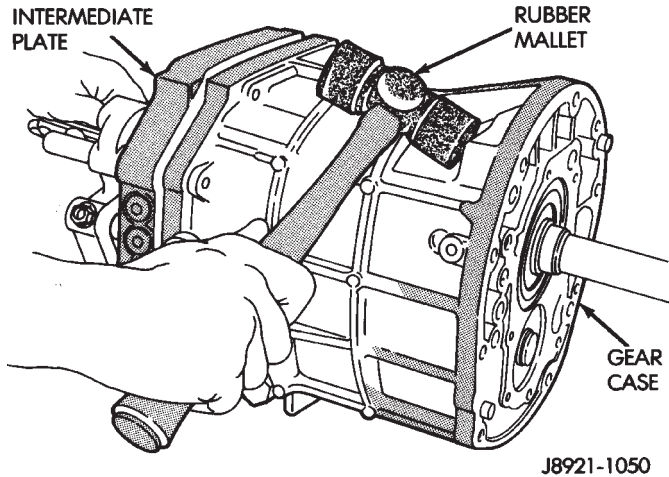

Fig. 31 Separate Intermediate Plate and Transmission Case
- (22) Remove countershaft front bearing snap-ring.
- (23) Separate intermediate plate and transmission case by tapping them loose with plastic mallet (Fig. 31).